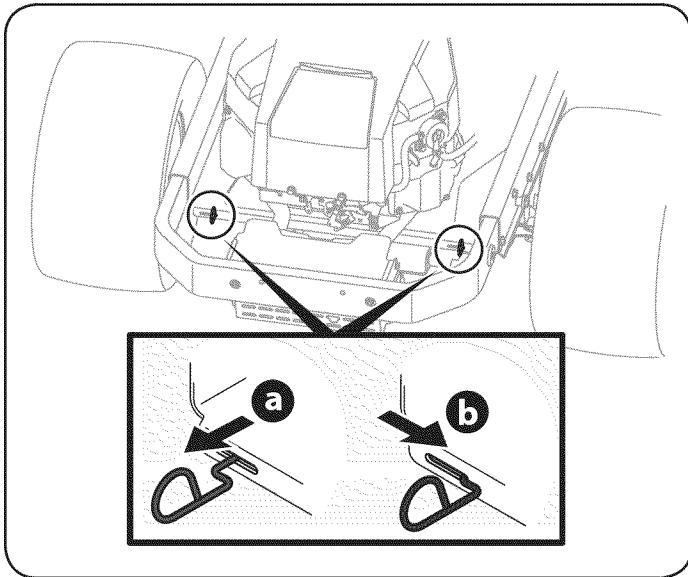

Figure 1
1. Locate the hydrostatic bypass rod in the rear of the riding mower. See Figure 1.
2. Engage the bypass rods by pulling each one out (a) and to the right (b) to lock it into place. See Figure 1.
3. Disengage the bypass rods by reversing steps a & b after moving the tractor. See Figure 1.